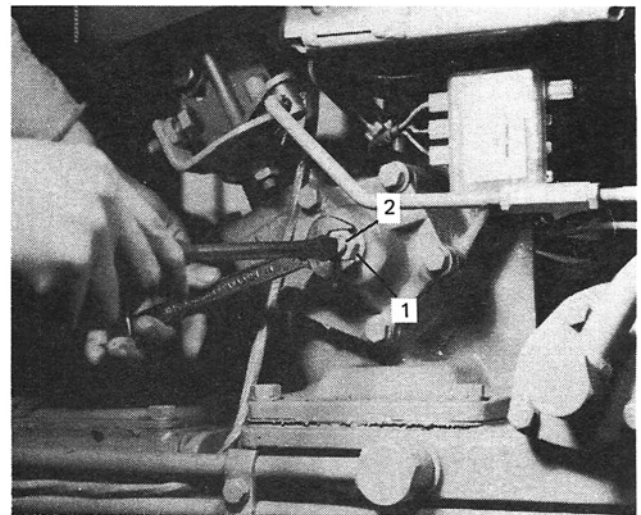

Figure 5
2. Loosen the adjuster locknut on the right side of the steering gear box and turn the adjuster screw, see Figure 5. Turning the screw clockwise will decrease the free play while turning the adjuster screw counter-clockwise will increase the steering wheel free play.